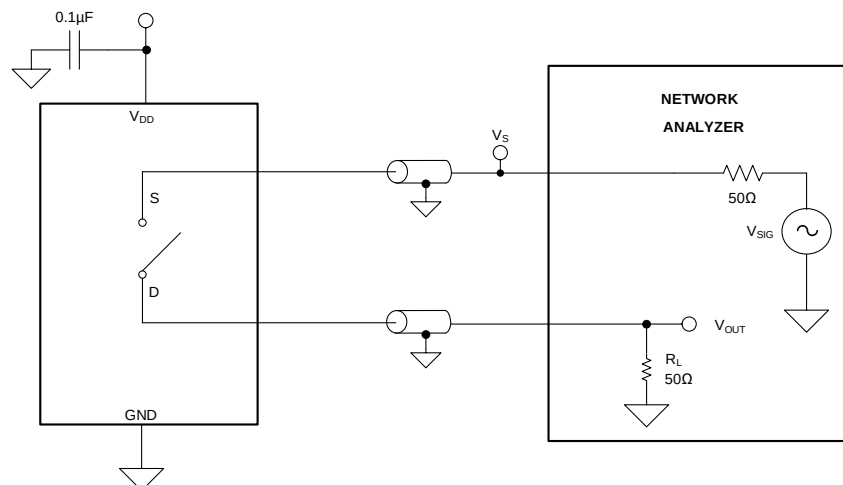

Figure 6. Off isolation measurement setup
Off isolation is defined as the ratio of the signal at the drain pin (D) of the device when a signal is applied to the source pin (S) of an off-channel. The characteristic impedance, Z_0 , for the measurement is 50 Ω. Figure 6 shows the setup used to measure off isolation. Use off isolation equation to compute off isolation.